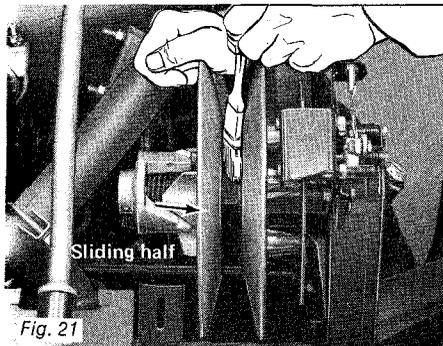

Fig. 21
4. Pour about **one** spoonful of Ski-Doo* oil into spark plug hole. (See Fig. 21).
2. Thoroughly clean the driven pulley shaft. Apply a light coat of Ski-Doo* clutch lube on shaft (See Fig. 21).